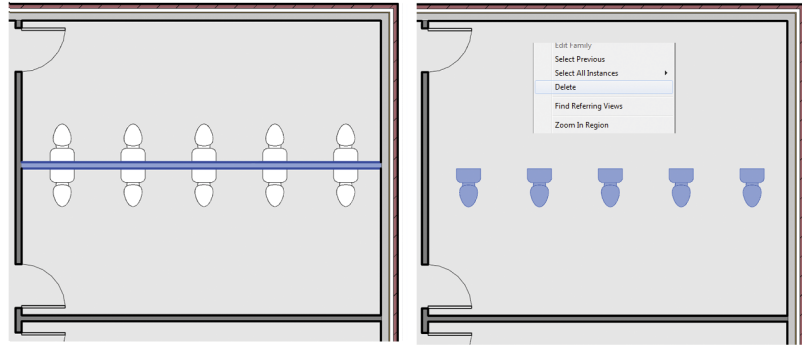

FIGURE 5.10 Placing unhosted components in a model
- Place five instances of the `c05-ex-5.5unhosted.rfa` family along the opposite side of the same partition wall, as shown in Figure 5.10. You can use the Align tool after placement to easily align them to the wall and the opposite side elements.
- Delete the partition wall (as indicated in Figure 5.10). The unhosted fixtures remain (but the hosted fixtures are deleted again).